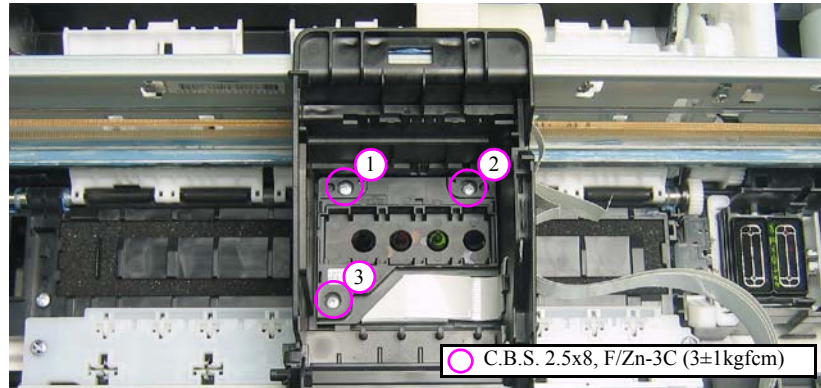

Figure 4-48. Removing the Printhead (1)
- Tighten the screws in the order given in Figure. 4-48.